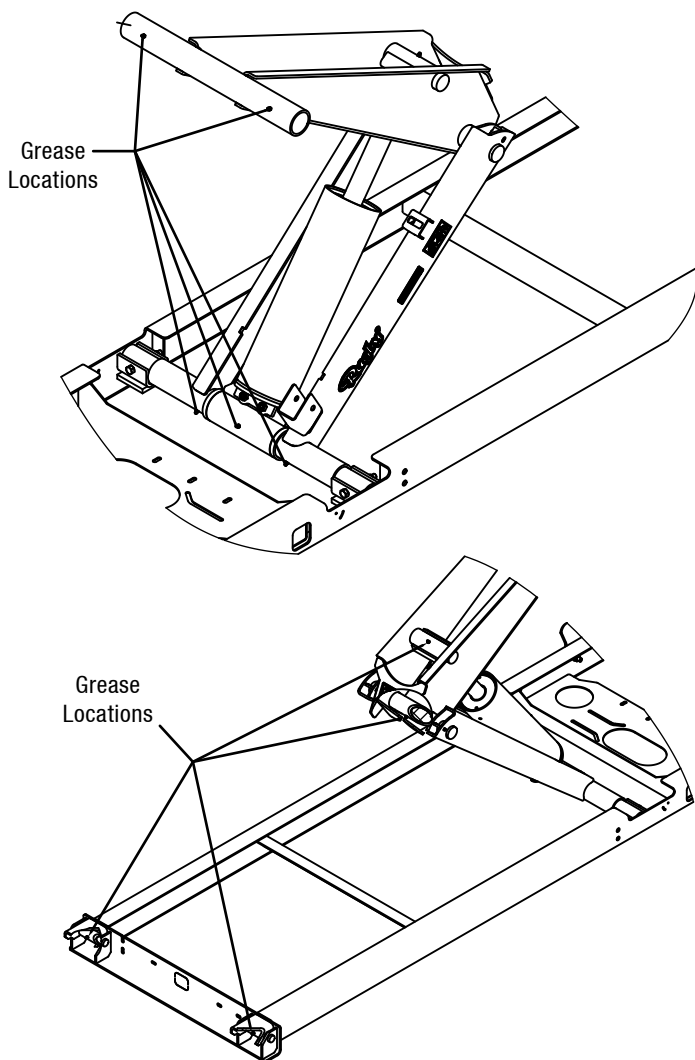

Figure 12: Grease Fitting Locations
12. Install and grease the fittings as shown in Figure 12.